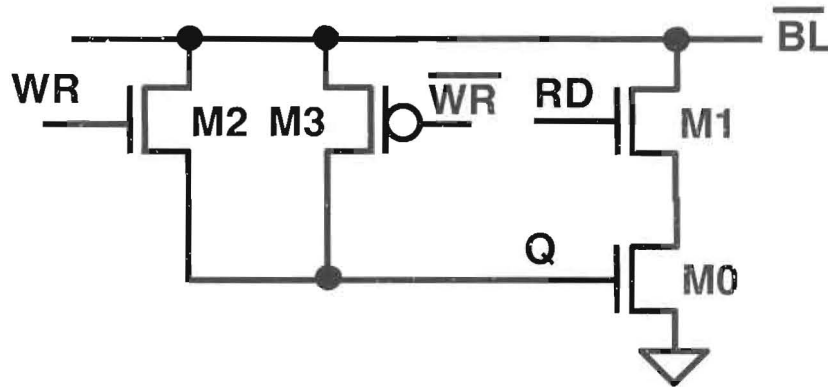

Figure 5: Four transistor memory cell.
**Problem 5.1 (2 points)** What type of memory cell is shown in Figure 5 (circle one)? Justify your answer. (Hint: Q is the storage node).
**Problem 5.2 (6 points)** Suppose node **Q** in Figure 5 has capacitance  $C = 75 \text{ fF}$  and is initially at  $0\text{V}$ . Using the switch  $RC$  model for the transistors, calculate the time to write node **Q** to  $V_{DD}/2$  assuming ideal steps on  $WR$  and  $\overline{WR}$  and that the initial resistance remains unchanged throughout the transition.